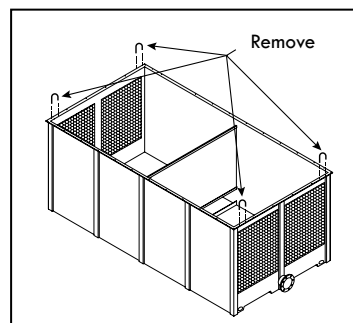

Figure A-108: Removing the U-bolts from basin of a Modular Tower (RTGMTC)
- I. Remove the U-bolts located on the flange of basin section # "M1A" before installing the body section # M1A" (see Figure A-108).